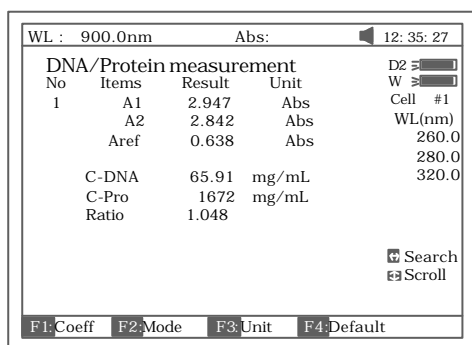

Fig 65
5. Pull the sample cuvette into the light path, press **【START】** to test the sample. The test result will be displayed on the screen (Fig 65).